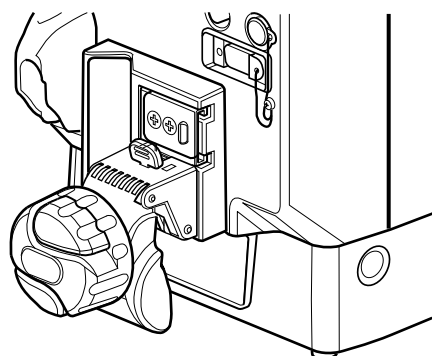
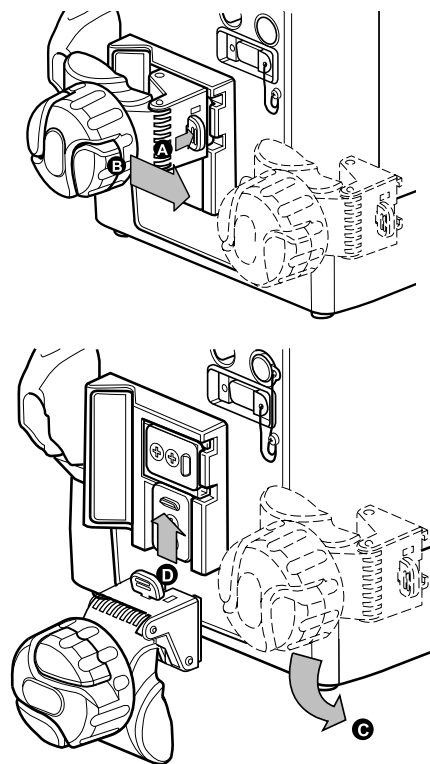

Figure 3-2 Headboard (horizontal) Mount
Figure 3-3 Changing the Mounting Bracket Orientation
1. Check to see if the clamp bracket is positioned for headboard mounting or other horizontal applications as in Figure 3-2.
The instructions and Figure 3-3 illustrate how to change the orientation from a pole mount (vertical) to a headboard (horizontal) mount. The procedure for changing from a horizontal mount to a vertical mount is similar, except that the positions of the clamp and plate cover are the reverse of what is shown in the figures.
1. Press down and hold the latch (A in Figure 3-3) to release the mounting clamp from the plate.
2. Grasp the mounting clamp knob and slide the clamp off of the bracket (B in Figure 3-3).
3. Rotate the clamp counter-clockwise 90° (C in Figure 3-3) until the open end of the clamp is towards the floor (see clamp in Figure 3-2).
4. Slide the clamp up onto the plate until you hear the clamp lock into place (D in Figure 3-3). The clamp should now be positioned as in Figure 3-2. Test to make sure it is secure.